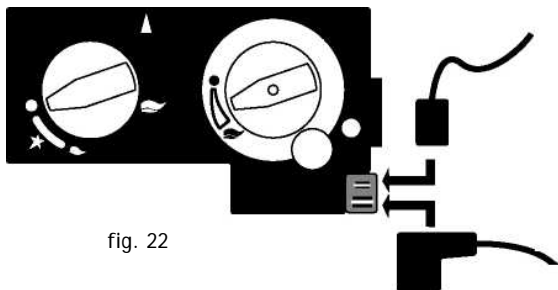

fig. 22
3. Connect the wires to the gas valve (see fig. 22).